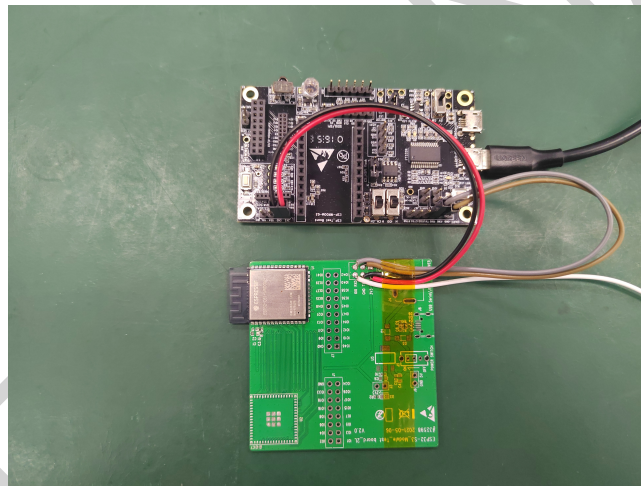

Figure 2: Hardware Connection
1. Solder the ESP32-C61-WROOM-1 module to the RF testing board as shown in Figure 2.